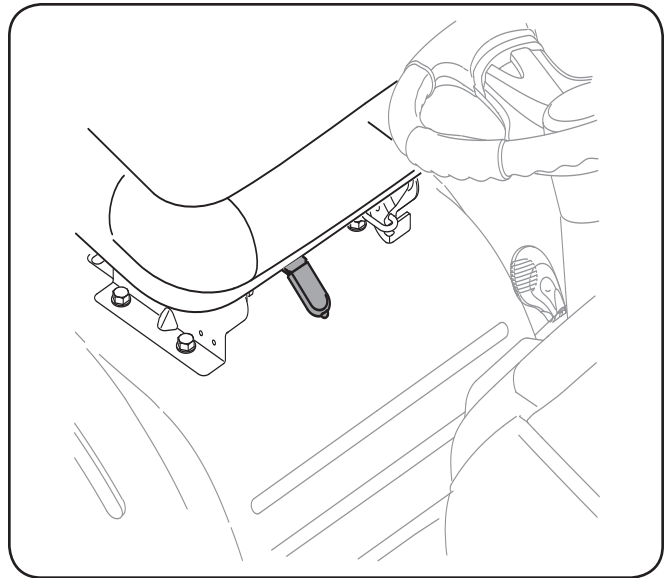

Figure 3-8
4. To adjust the position of the seat on models equipped with a seat adjustment lever, move the seat adjustment lever (located under the seat) to the left and slide the seat forward or rearward. See Fig. 3-8. Make sure seat is locked into